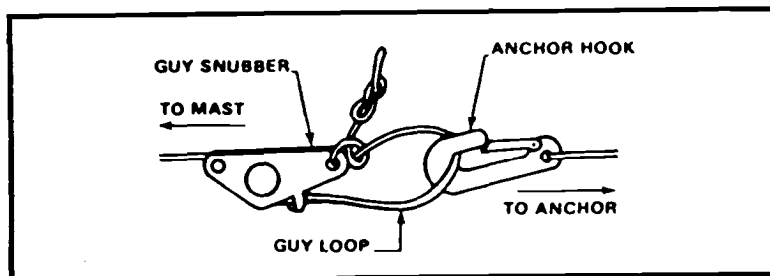

Figure 3-6. Attaching guy loops to ground anchor.
- Extend the guy assemblies to the side and back anchor hooks and attach the guy loops (Figure 3-6).
- Extend the upper guy assemblies to the side and back anchor hooks and attach the guy loops (Figure 3-6).
- (1) Connect the free guys to the remaining guy stake assembly (Figure 3-6) and tighten the guys.
- (2) Adjust all the guy ropes evenly. Check for vertical position by comparing the mast with a building, pole, or other vertical object.